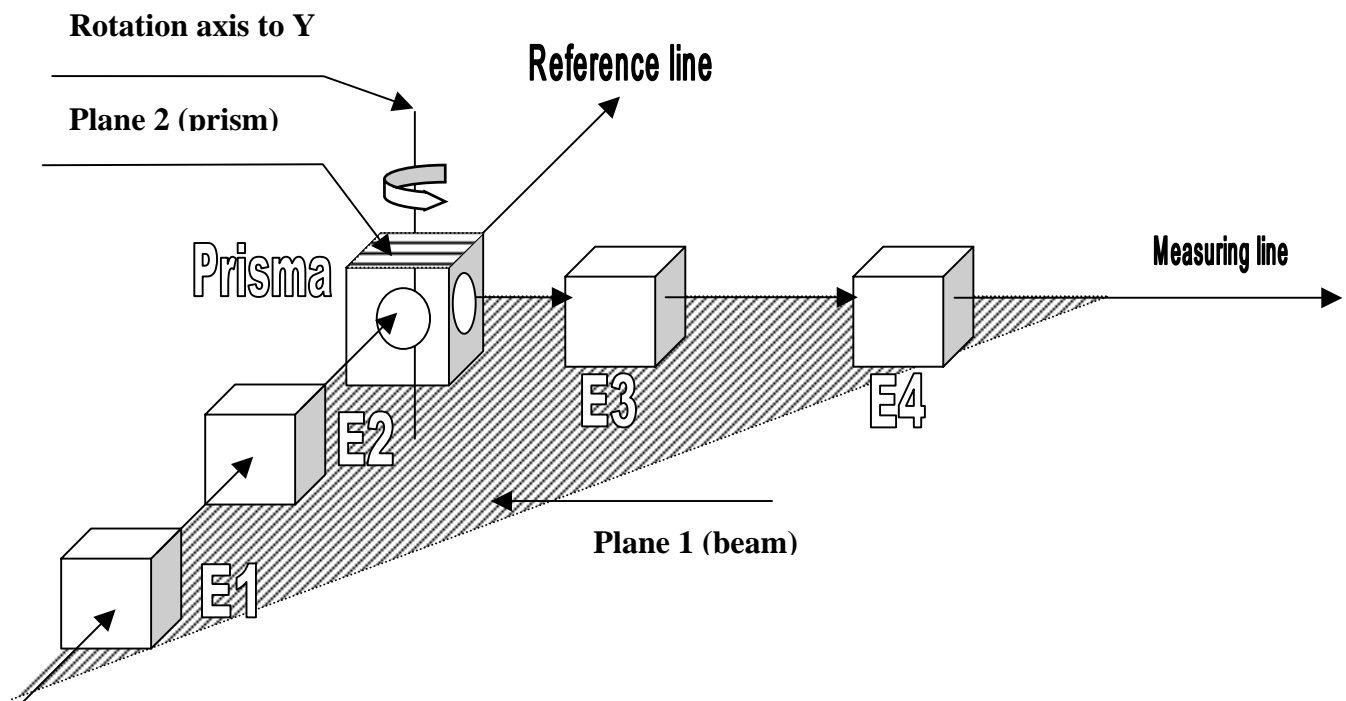

Fig. 10 : Reference and measuring plane
- Adjust the laser beam in relation to the reference and measuring plane (*fig. 10*)
- laser beam plane (*fig. 10*, plane 1) and
- pentaprism plane (base of the prism), (*fig. 10*, plane 2),